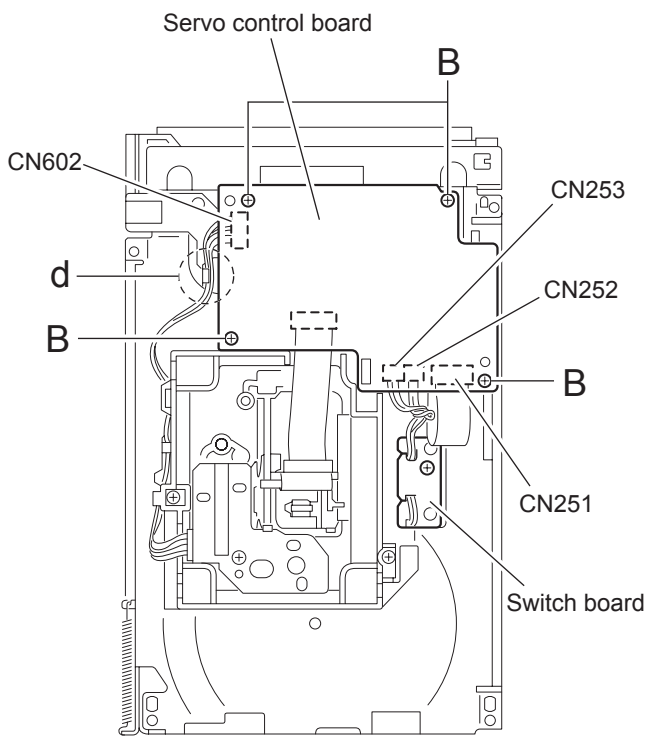

Fig.6
3.2.2 Removing the servo control board (See Fig.6 ~ 9)